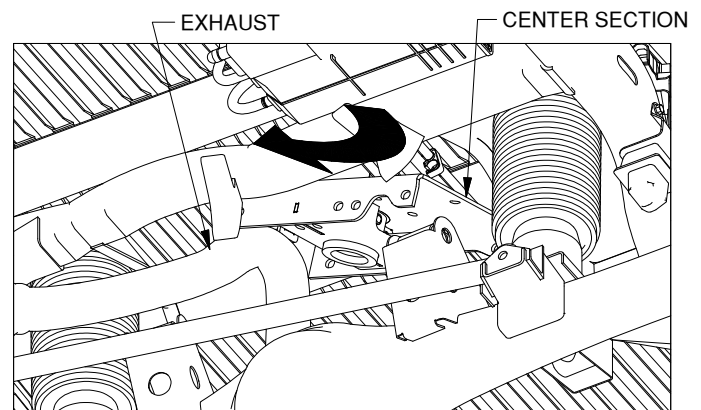
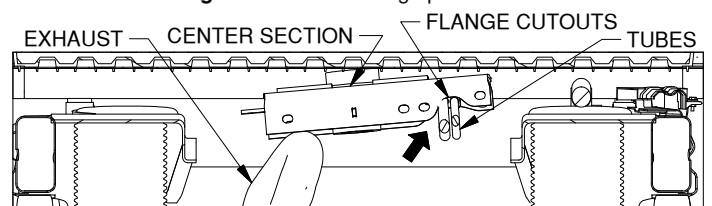

Figure B1: View looking up under truck.
Figure B2: Cutaway view looking at center section.
- 2. Raise center section.** Pull down on the exhaust and push it to the driver side. With the latch pin side of the center going forward and the raised portion of the center up, guide the center over the exhaust, see Figure B1. Move the center section to the driver side so that the edge of the center section near the passenger side is past the two tubes which were disconnected earlier. While continuing to pull down, move the exhaust toward the passenger side of the vehicle. The two tubes will need to be pulled down and rotated to make room for the center. Move the center forward and toward the passenger side so that the center passes over the two tubes, see Figure B2. Once the two tubes are under the cutouts in each flange of the center section, move the center back toward the rear of the truck and let it rest on the exhaust and the tubes.